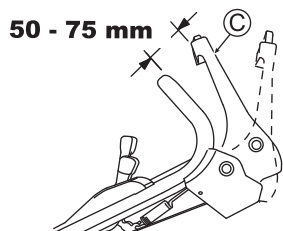

Fig. 26
Adjust so that the blade starts rotating when the distance between the blade lever (C) and the handle is 50 - 75 mm with the yellow button pressed as shown in Fig. 26.